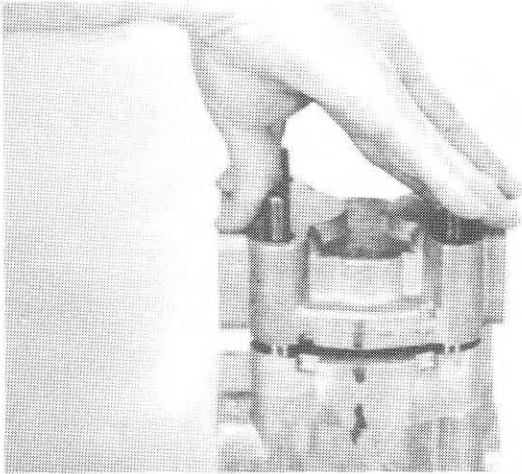

FIG. 32
43. Install cover plate o-ring (10), pressure balance o-ring (9), and nylon back-up strip (8) in cover plate (5). Apply a light coat of clean heavy grease to hold the o-rings in their grooves. Use hand pressure to push the cover plate down on the dowels until the o-ring makes contact with the gear plate. (Fig. 32)